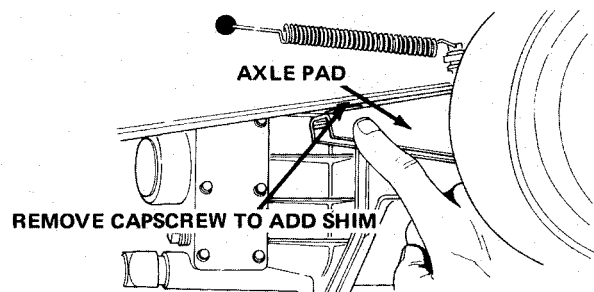

Figure 48
frame (Fig. 48). By contrast, a transmission that is too low will not allow the ruler or scale to lay alongside the coupling retainer. To correct this problem, install a 1/16 inch (1.6 mm) spacer between front of mounting pad and bottom of frame.
3. To install spacers, remove the appropriate two cap screws and loosen the others (Fig. 48). If spacers must be added to front of mounting pad, remove front cap screws and loosen the back ones. Do just the opposite to add spacers at rear of mounting pads.